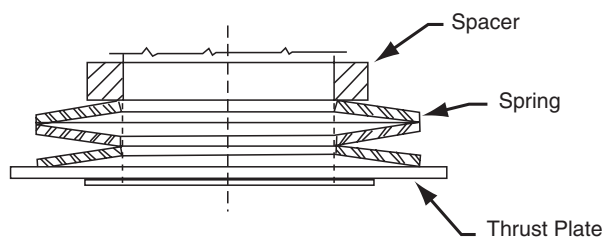

Figure 12
2. Stack springs on thrust plate and rotor as shown in Figure 12.
3. Place spacer provided with the spring pack in position on clutch as shown in Figure 12.
- Lubricate disc springs and stack the springs against the thrust plate as shown in Figure 12.
- Stack spacer on top of disc springs as shown in Figure 12.